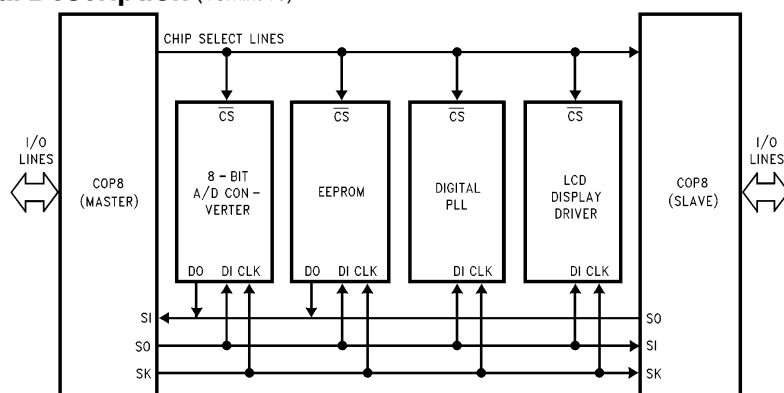

FIGURE 8. MICROWIRE/PLUS Application
Setting the BUSY bit in the PSW register causes the MICROWIRE/PLUS arrangement to start shifting the data. It gets reset when eight data bits have been shifted. The user may reset the BUSY bit by software to allow less than 8 bits to shift. The device may enter the MICROWIRE/PLUS mode either as a Master or as a Slave. Figure 8 shows how two device microcontrollers and several peripherals may be interconnected using the MICROWIRE/PLUS arrangement.
In the MICROWIRE/PLUS Master mode of operation the shift clock (SK) is generated internally by the device. The MICROWIRE/PLUS Master always initiates all data exchanges (Figure 8). The MSEL bit in the CNTRL register must be set to enable the SO and SK functions on the G Port. The SO and SK pins must also be selected as outputs by setting appropriate bits in the Port G configuration register. Table V summarizes the bit settings required for Master mode of operation.
The user must set the BUSY flag immediately upon entering the Slave mode. This will ensure that all data bits sent by the Master will be shifted properly. After eight clock pulses the BUSY flag will be cleared and the sequence may be repeated (Figure 8).